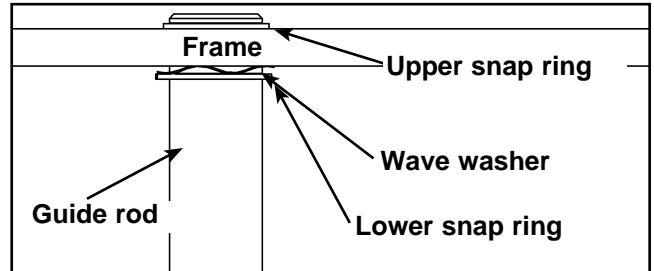

Figure 8
C. Using an external snap ring pliers, remove the upper snap ring from one of the guide rods and carefully lower the guide rod. See Figure 8.